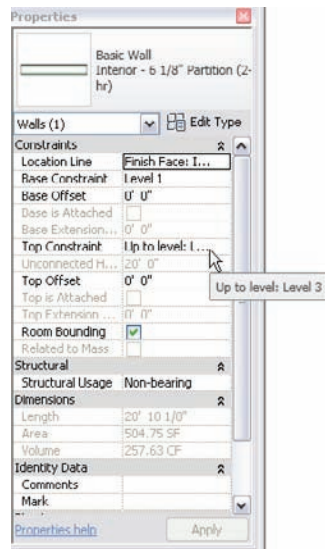

FIGURE 3.51 Choosing the properties to change a wall's constraints is becoming old hat!
2. In the Properties dialog, change Top Constraint to Up To Level: Level 3, as shown in Figure 3.51.